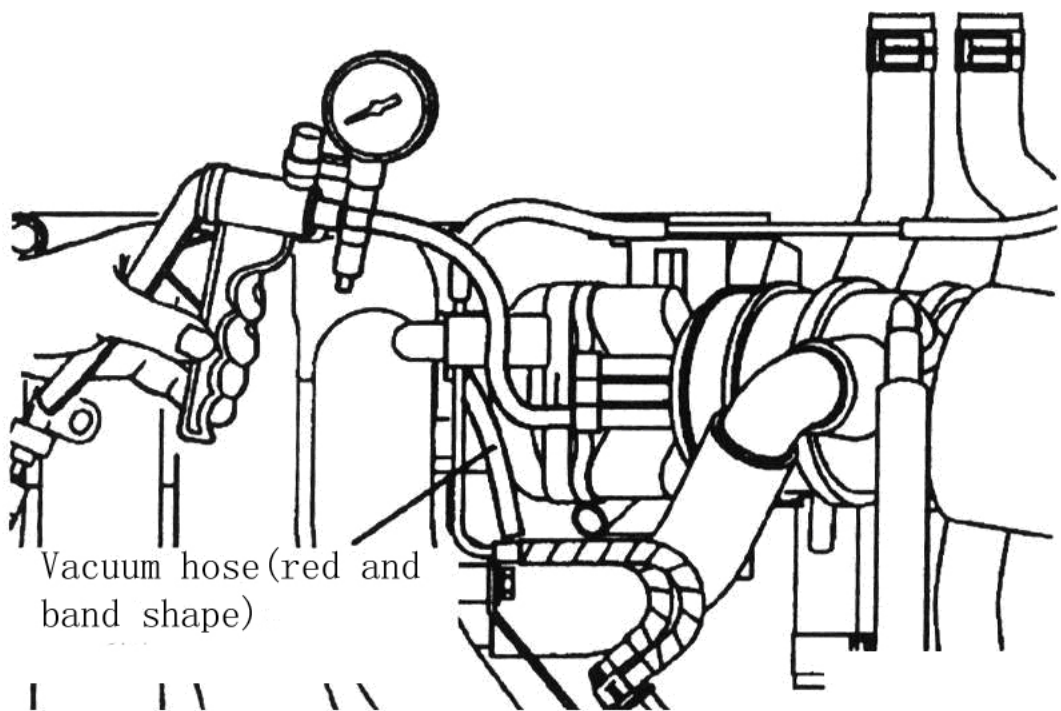

Fig.10-10
• Disconnect the vacuum hose from the intake manifold purge vacuum nipple and connect a hand vacuum pump to the nipple(Fig.10-10)